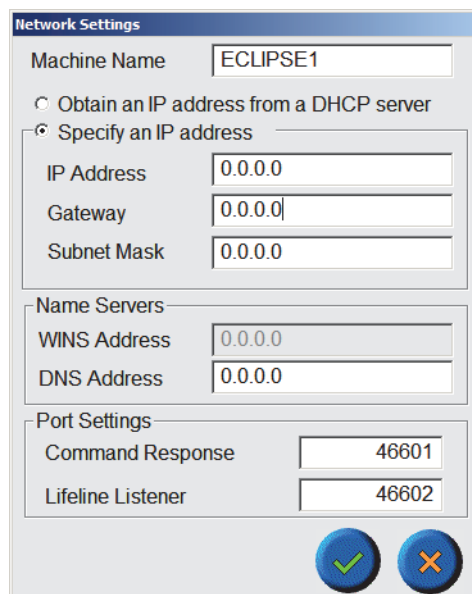

Figure 14.4. Network Settings dialog box
3. From the System screen, press **Network Settings**. The Network Settings dialog box appears (Figure 14.4).